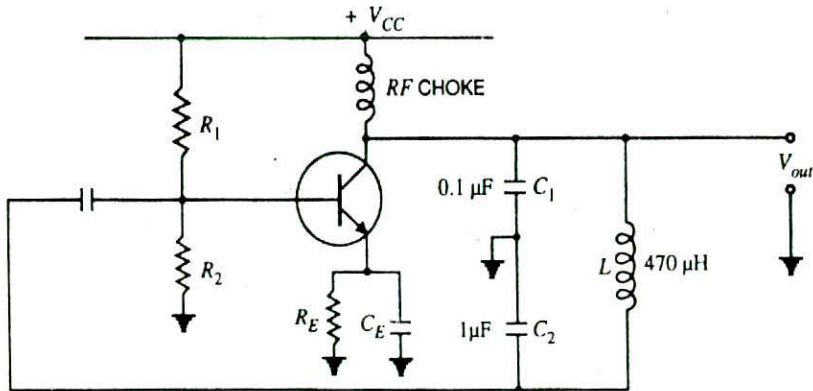

Fig. 16.24
1. Figure 16.24 shows the Colpitt's oscillator. Determine the (i) operating frequency and (ii) feedback fraction. [(i) 24.5 kHz (ii) 0.1]
3. For the Colpitt's oscillator shown in Fig. 16.24, $C_1 = 750 \text{ pF}$, $C_2 = 2500 \text{ pF}$ and $L = 40 \mu\text{H}$. Determine (i) the operating frequency and (ii) feedback fraction. [(i) 1050 kHz (ii) 0.3]